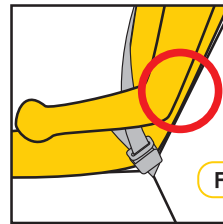

Figure 1
**Step 1:** Can the child sit with their back against the vehicle seat back? (refer Figure 1).
**Step 1:** Disengage the buckle, undo the cover flap located between the leg straps and place the buckle in the recessed section of the plastic base. Close the flap in the cover (Refer to Figure 1 & 2).